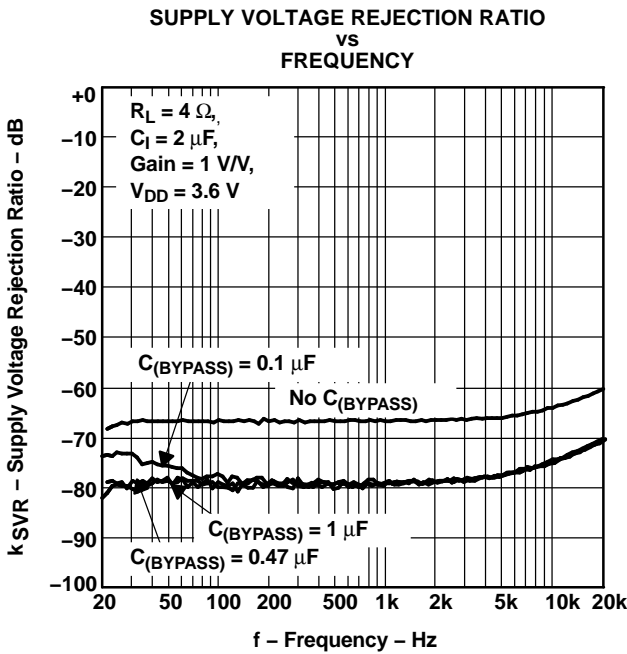

Figure 17.
- Mid-supply bypass capacitor,  $C_{(BYPASS)}$ , not required:** The fully differential amplifier does not require a bypass capacitor. Any shift in the mid-supply voltage affects both positive and negative channels equally, thus canceling at the differential output. Removing the bypass capacitor slightly worsens power supply rejection ratio ( $K_{SVR}$ ), but a slight decrease of  $K_{SVR}$  may be acceptable when an additional component can be eliminated (See Figure 17).